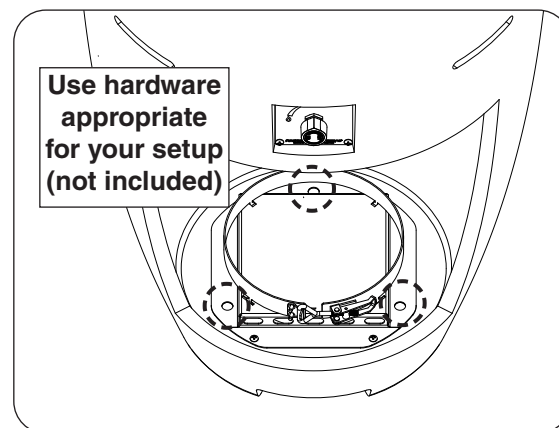

Fig. 17-4 Mount urn to floor
3. Using appropriate mounting hardware for the floor material/construction, secure the urn into the floor. The interior of the urn has three  $\frac{1}{2}$ " holes that will allow for the urn to be fastened to the floor. See Fig. 17-4.